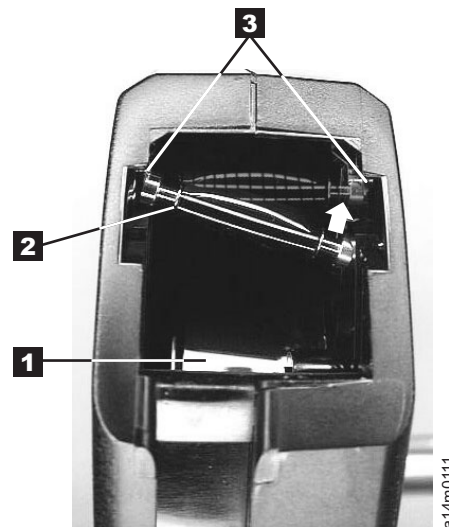

Figure 11. Placing the dislodged leader pin into the correct position. The cartridge door is open, showing the leader pin out of position
1. Slide open the cartridge door (**1** in Figure 11) and locate the leader pin **2** (you may need to shake the cartridge gently to roll the pin toward the door).